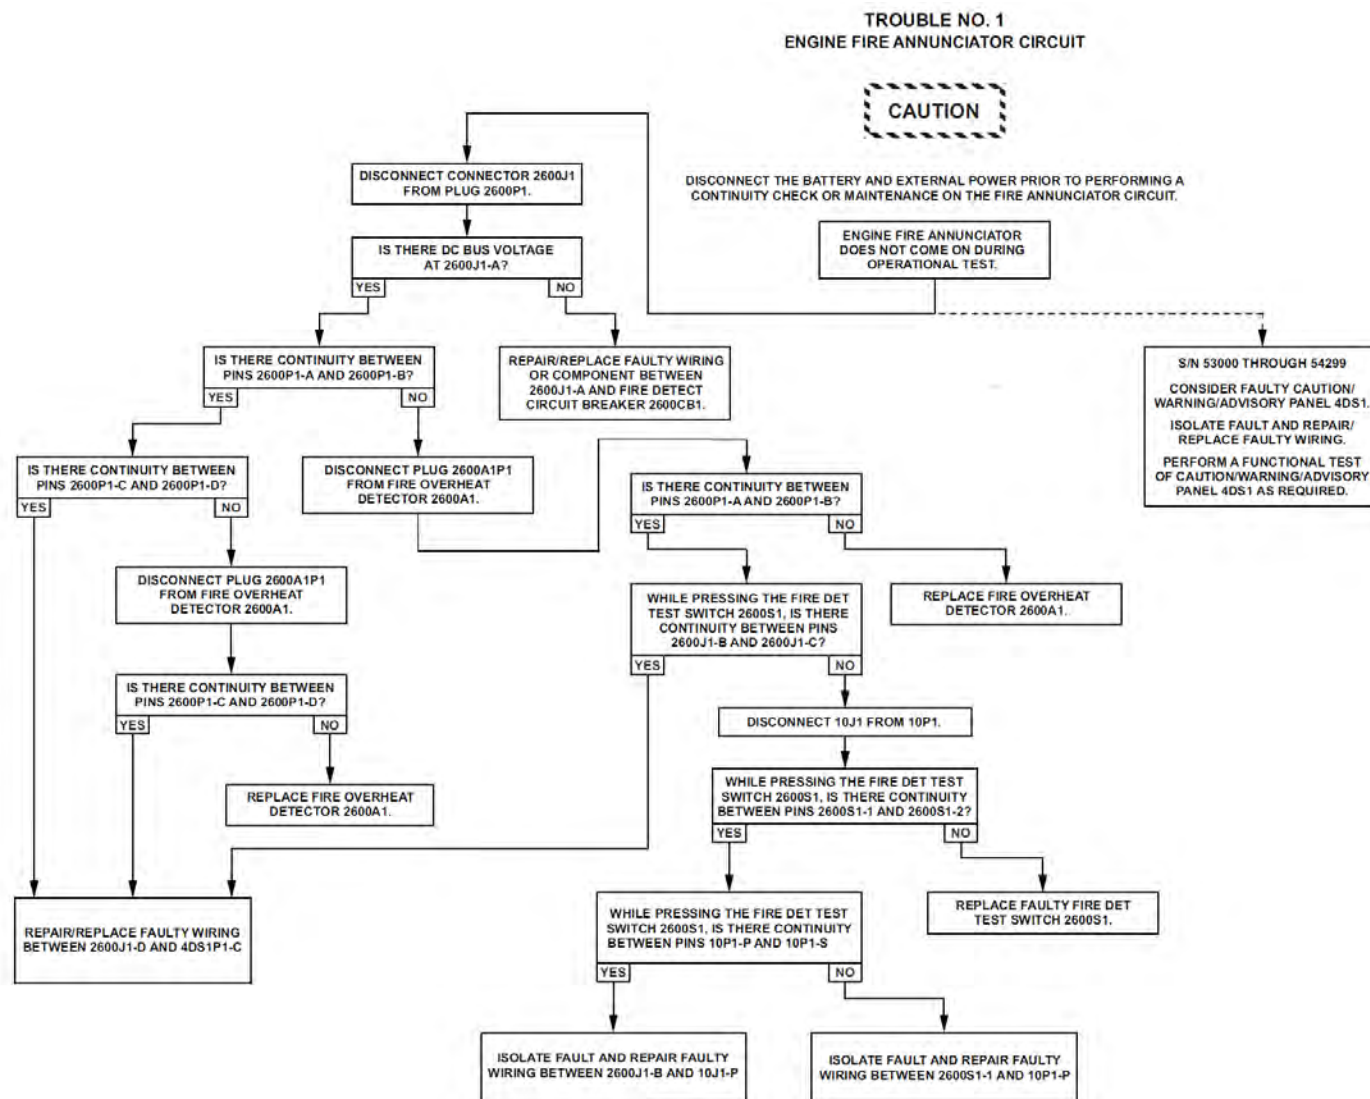

Figure 96-52: ENGINE FIRE Annunciator Circuit - Trouble No. 1
- If the ENGINE FIRE annunciator does not come on, refer to Trouble No. 1 (Figure 96-52).